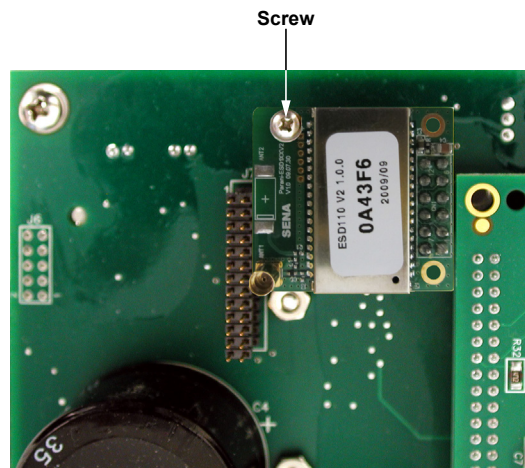

Figure 8.1-2 Main PCB, Installed Bluetooth Module
1. Unscrew the 2-56 x 1/4 screw in the standoff screw hole. Set aside the flat washer underneath the screw (Figure 8.1-2).